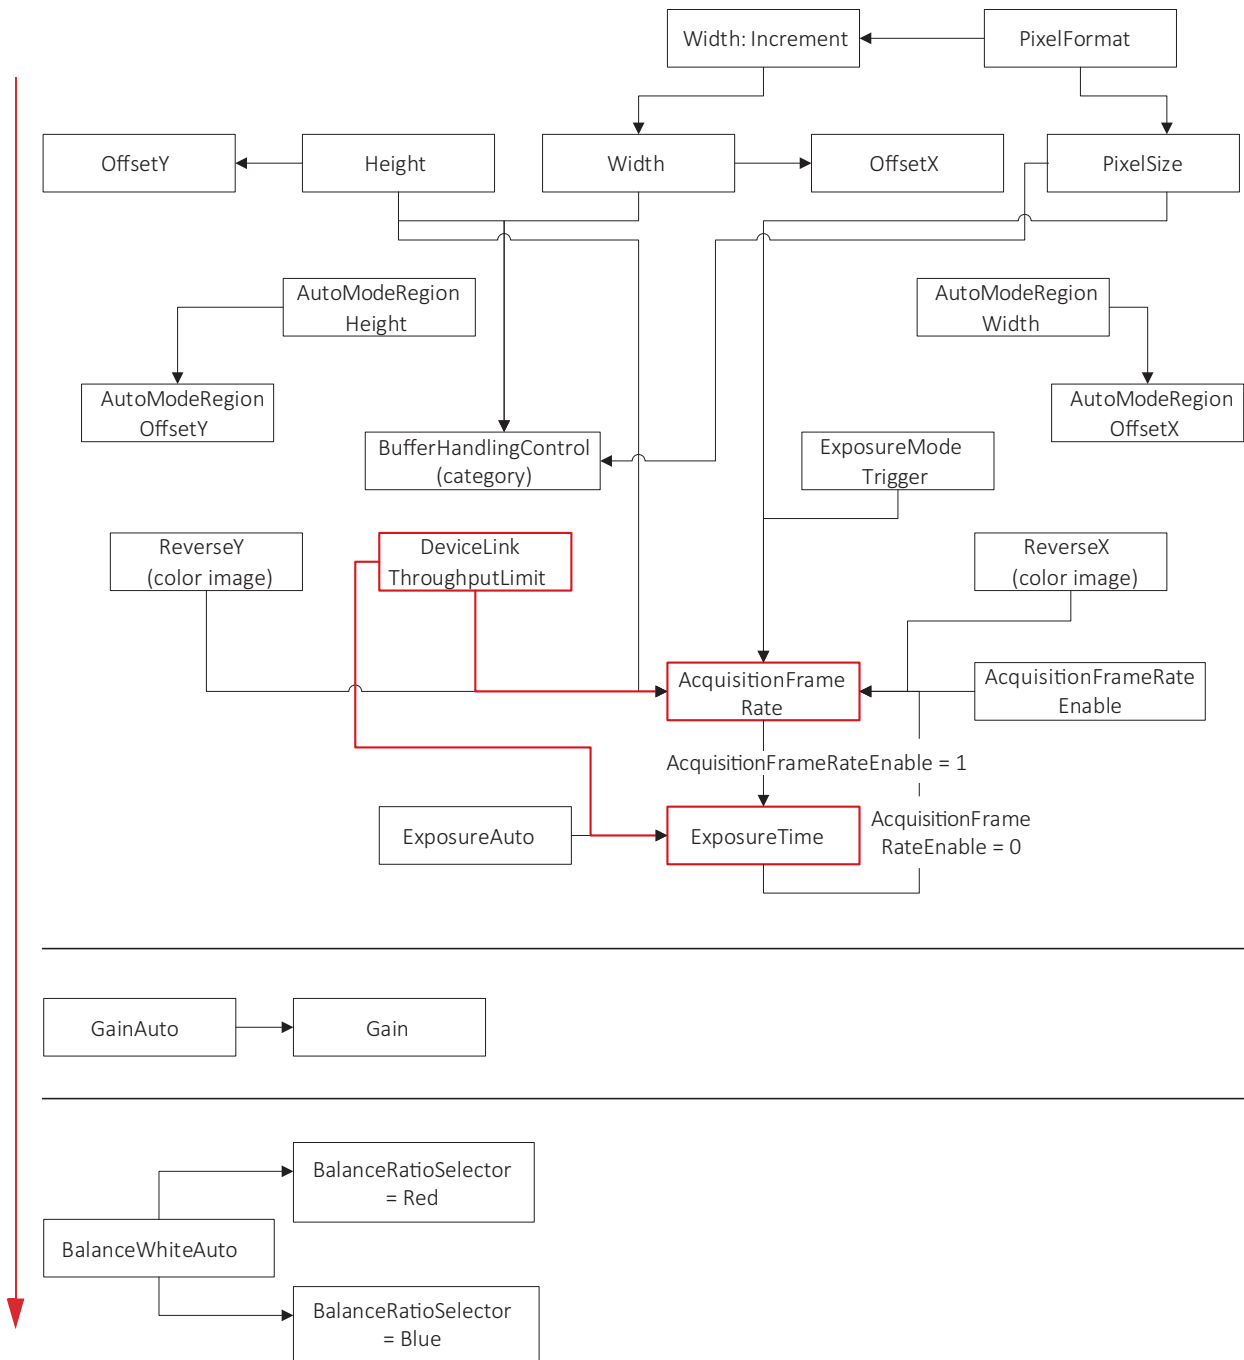

Figure 75: Interdependencies between features
The conversion between time and clock cycles affects control values. Features for pixel format, bandwidth, ROI, exposure time, and triggering are related to each other. Changing values for one feature can change values for another feature. For example, frame rates can be reduced when **PixelFormat** is changed subsequently. Figure 75 shows the interdependencies.
- To avoid readjustments, apply settings in the order shown in Figure 75.